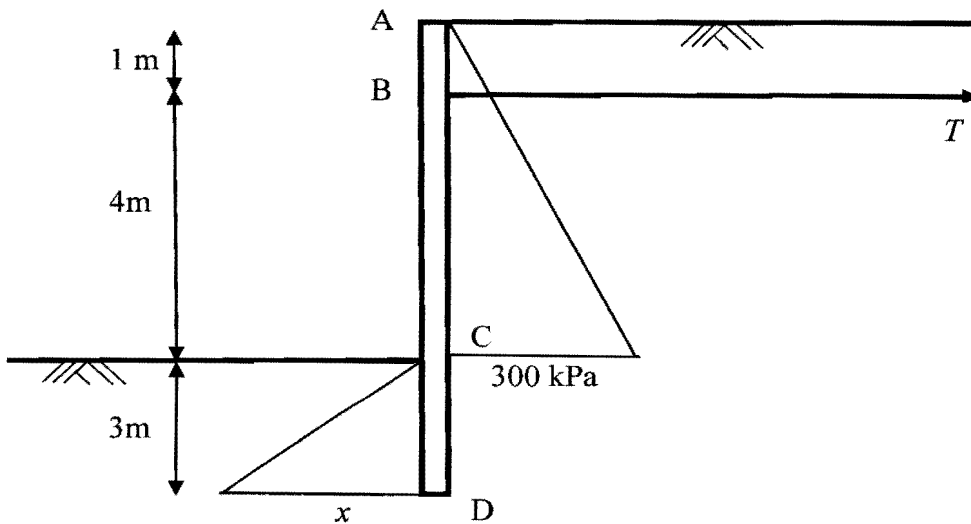

Fig. 2
5. A reinforced concrete wall AD supports a 5 m deep excavation and penetrates a further 3 m into the ground, as shown in Fig. 2. Tie rods, at 2 m intervals along the length of the wall, at position B, are connected to remote anchor blocks.
The cube strength of the concrete is 40 MPa and the yield strength of the reinforcing bars is 460 MPa. The earth pressures shown in Fig. 2 are those that act on the wall.